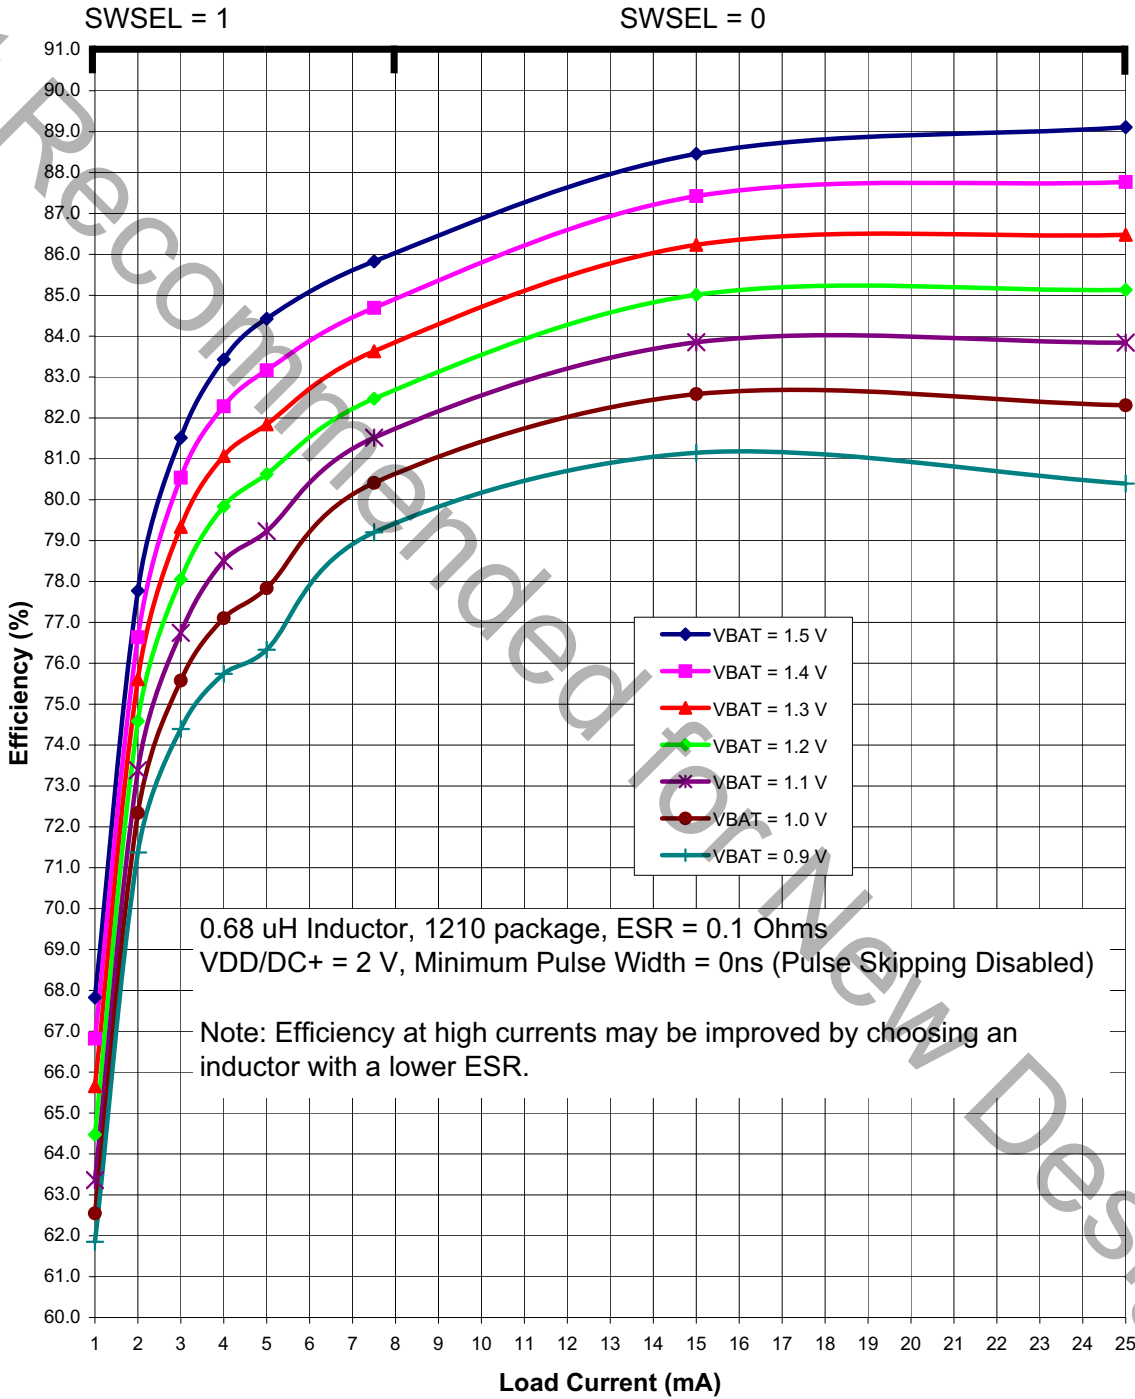
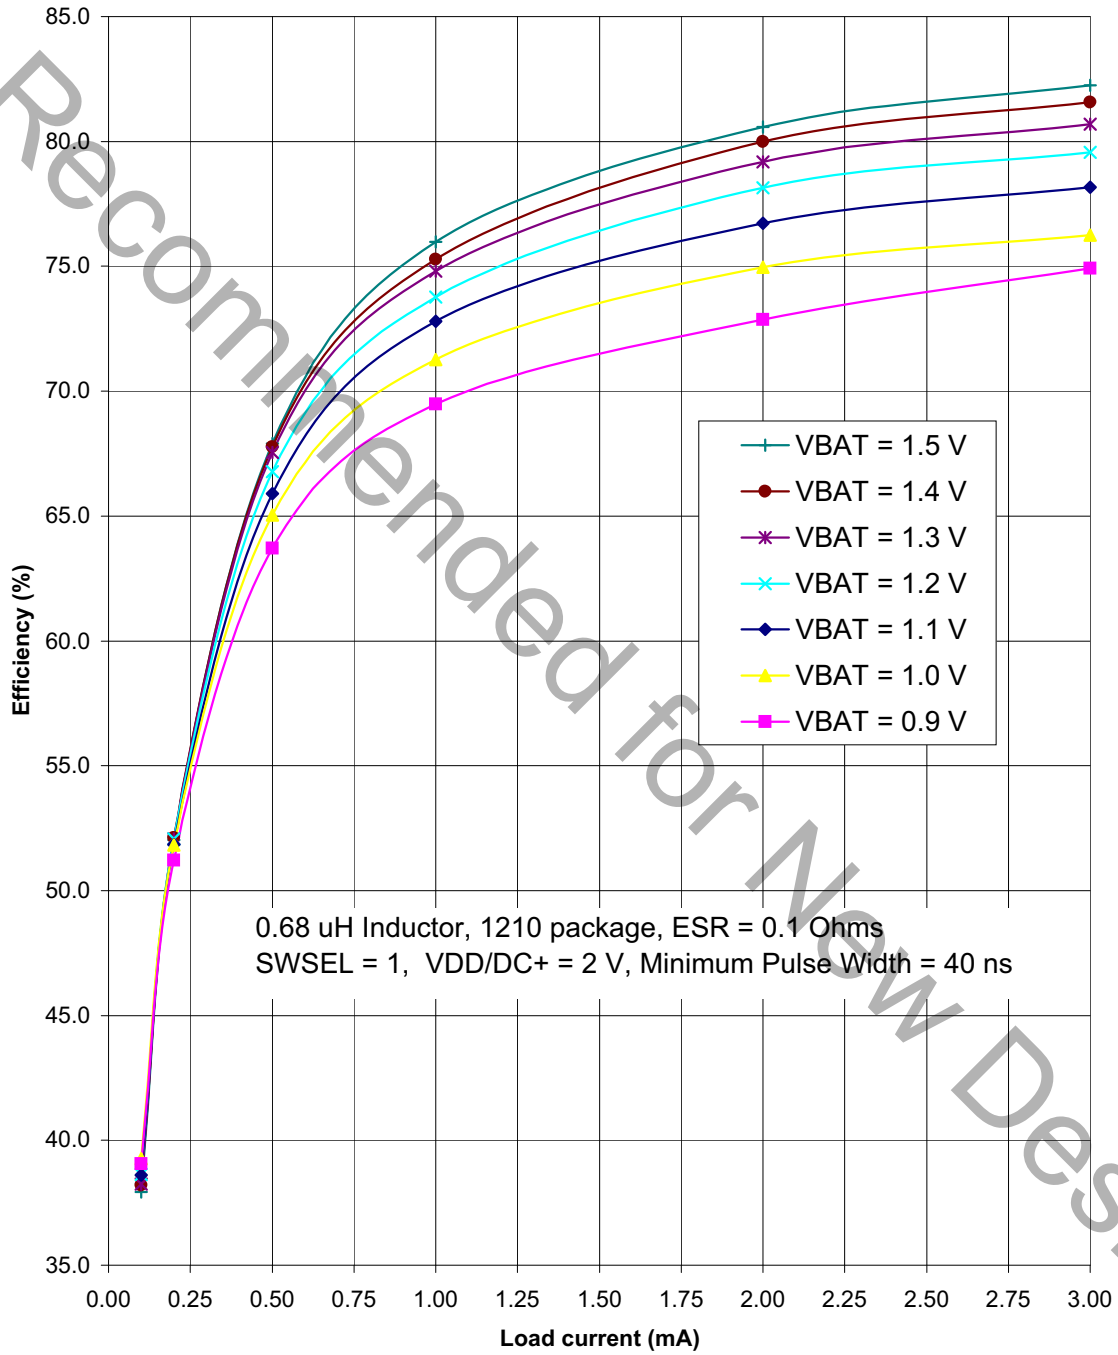

Figure 4.3. Typical DC-DC Converter Efficiency (High Current, VDD/DC+ = 2 V)
Figure 4.5. Typical DC-DC Converter Efficiency (Low Current, VDD/DC+ = 2 V)
<p>Notes:</p> <ol style="list-style-type: none"> Based on device characterization data; Not production tested. SYSCCLK must be at least 32 kHz to enable debugging. Digital Supply Current depends upon the particular code being executed. The values in this table are obtained with the CPU executing an "sjmp \$" loop, which is the compiled form of a while(1) loop in C. One iteration requires 3 CPU clock cycles, and the flash memory is read on each cycle. The supply current will vary slightly based on the physical location of the sjmp instruction and the number of flash address lines that toggle as a result. In the worst case, current can increase by up to 30% if the sjmp loop straddles a 128-byte flash address boundary (e.g., 0x007F to 0x0080). Real-world code with larger loops and longer linear sequences will have few transitions across the 128-byte address boundaries. Includes oscillator and regulator supply current. IDD can be estimated for frequencies ≤10 MHz by simply multiplying the frequency of interest by the frequency sensitivity number for that range, then adding an offset of 90 µA. When using these numbers to estimate IDD for >10 MHz, the estimate should be the current at 25 MHz minus the difference in current indicated by the frequency sensitivity number. For example: VDD = 3.0 V; F = 20 MHz, IDD = 4.1 mA – (25 MHz – 20 MHz) x 0.120 mA/MHz = 3.5 mA. The Supply Voltage is the voltage at the VDD_MCU pin, typically 1.8 to 3.6 V (default = 1.9 V). Idle IDD can be estimated by taking the current at 25 MHz minus the difference in current indicated by the frequency sensitivity number. For example: VDD = 3.0 V; F = 5 MHz, Idle IDD = 2.5 mA – (25 MHz – 5 MHz) x 0.095 mA/MHz = 0.6 mA. The supply current specifications in Table 4.2 are for two cell mode. The VBAT current in one-cell mode can be estimated using the following equation: $\text{VBAT Current (one-cell mode)} = \frac{\text{Supply Voltage} \times \text{Supply Current (two-cell mode)}}{\text{DC-DC Converter Efficiency} \times \text{VBAT Voltage}}$ <p>The VBAT Voltage is the voltage at the VBAT pin, typically 0.9 to 1.8 V. The Supply Current (two-cell mode) is the data sheet specification for supply current. The Supply Voltage is the voltage at the VDD/DC+ pin, typically 1.8 to 3.3 V (default = 1.9 V). The DC-DC Converter Efficiency can be estimated using Figure 4.3–Figure 4.5.</p> The EZRadioPRO peripheral is placed in Shutdown mode.